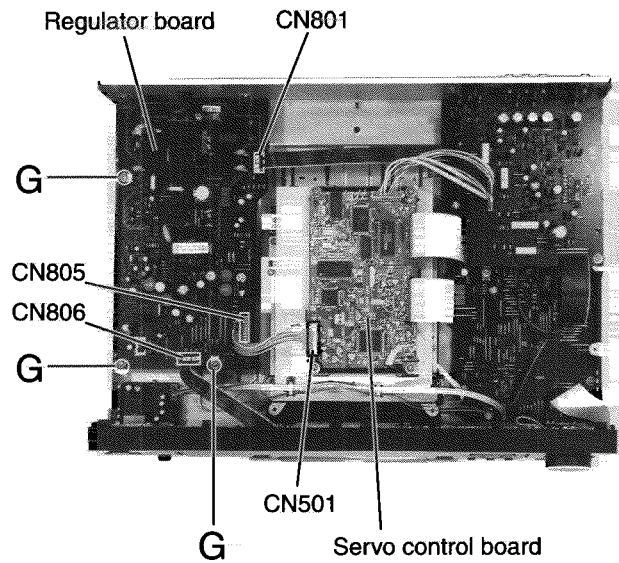

Fig. 9
■ Removing the Regulator Board (See Fig.9)